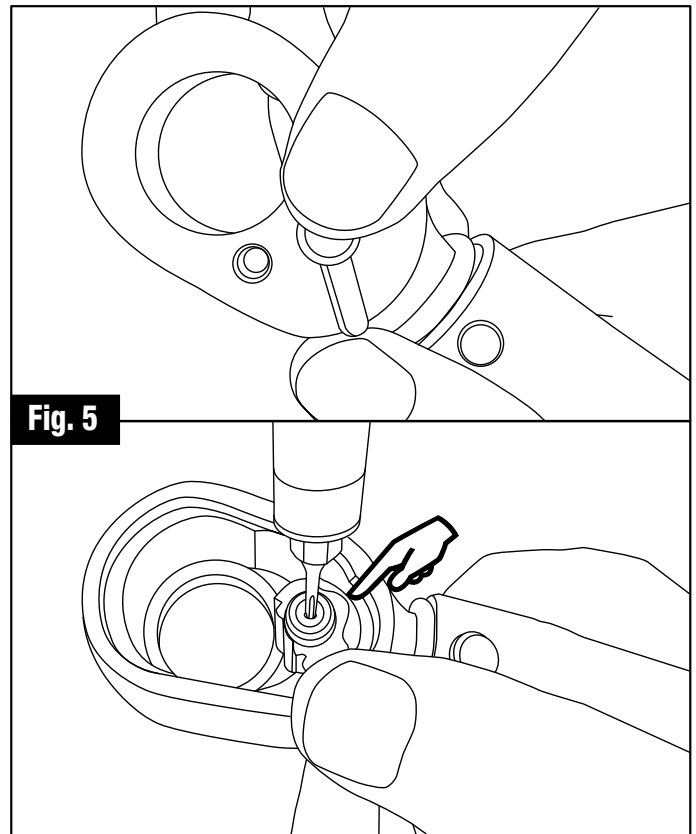

Fig. 5
Step 5: Insert the switch into the square hole on the pawl making sure the the tail of the switch and the bottom of the pawl (See Fig. 5) are both pointing in the same direction. Then fasten with the switch screw.